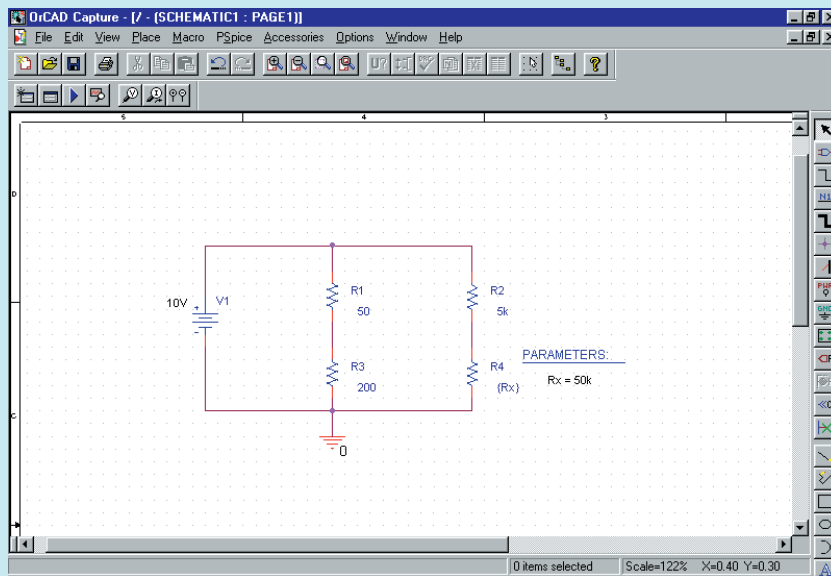

FIGURE 7-43
- Build the circuit as shown in Figure 7-43. Remember to rotate the components to provide for the correct node assignments. Change all component values (except R4) as required.